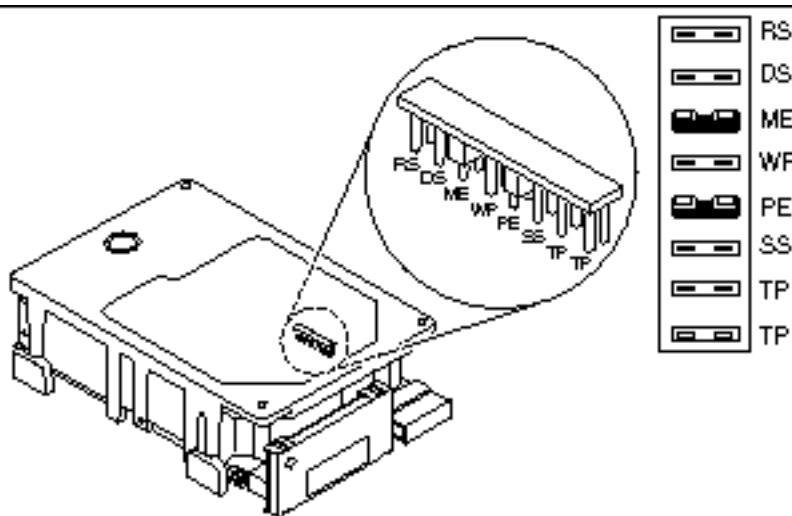

Figure 12-8 Configuration Jumper Settings for Both Disk Drives
3. Verify that the configuration jumpers are correctly set. See Figure 12-8 and Table 12-3.